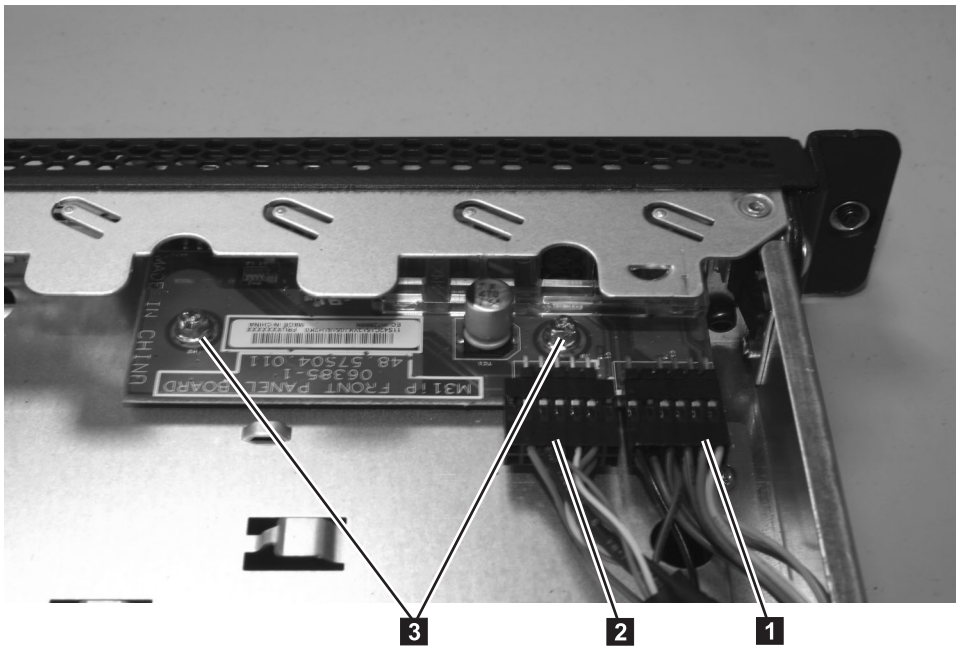

Figure 231. SAN Volume Controller 2145-8A4 operator-information panel
6. Disconnect the light-panel cable **1** and the USB cable **2** from the operator-information panel board shown in Figure 231.